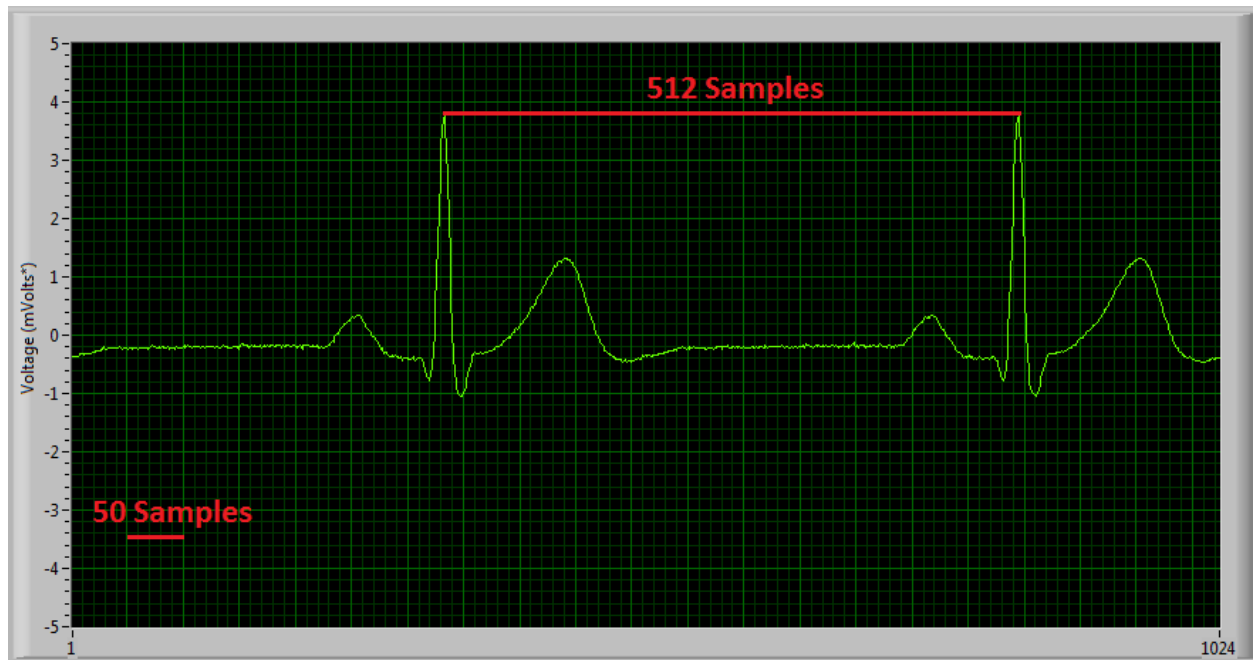

Figure 4-2: Diagram of ECG signal captured with 'Multi-Shimmer Sync' for HR calculation example.
It is a simple process to calculate heart rate (HR) in beats per minute (BPM) from the electrocardiogram using the R waves (which are part of the QRS complex described above). Shimmer's proprietary software, *ConsensusPRO* implements an ECG-to-HR algorithm to give users' access to HR from their Shimmer ECG, see Figure 4-2 for reference.
Figure 4-2 shows an example ECG signal with two distinct R waves and the following parameters: